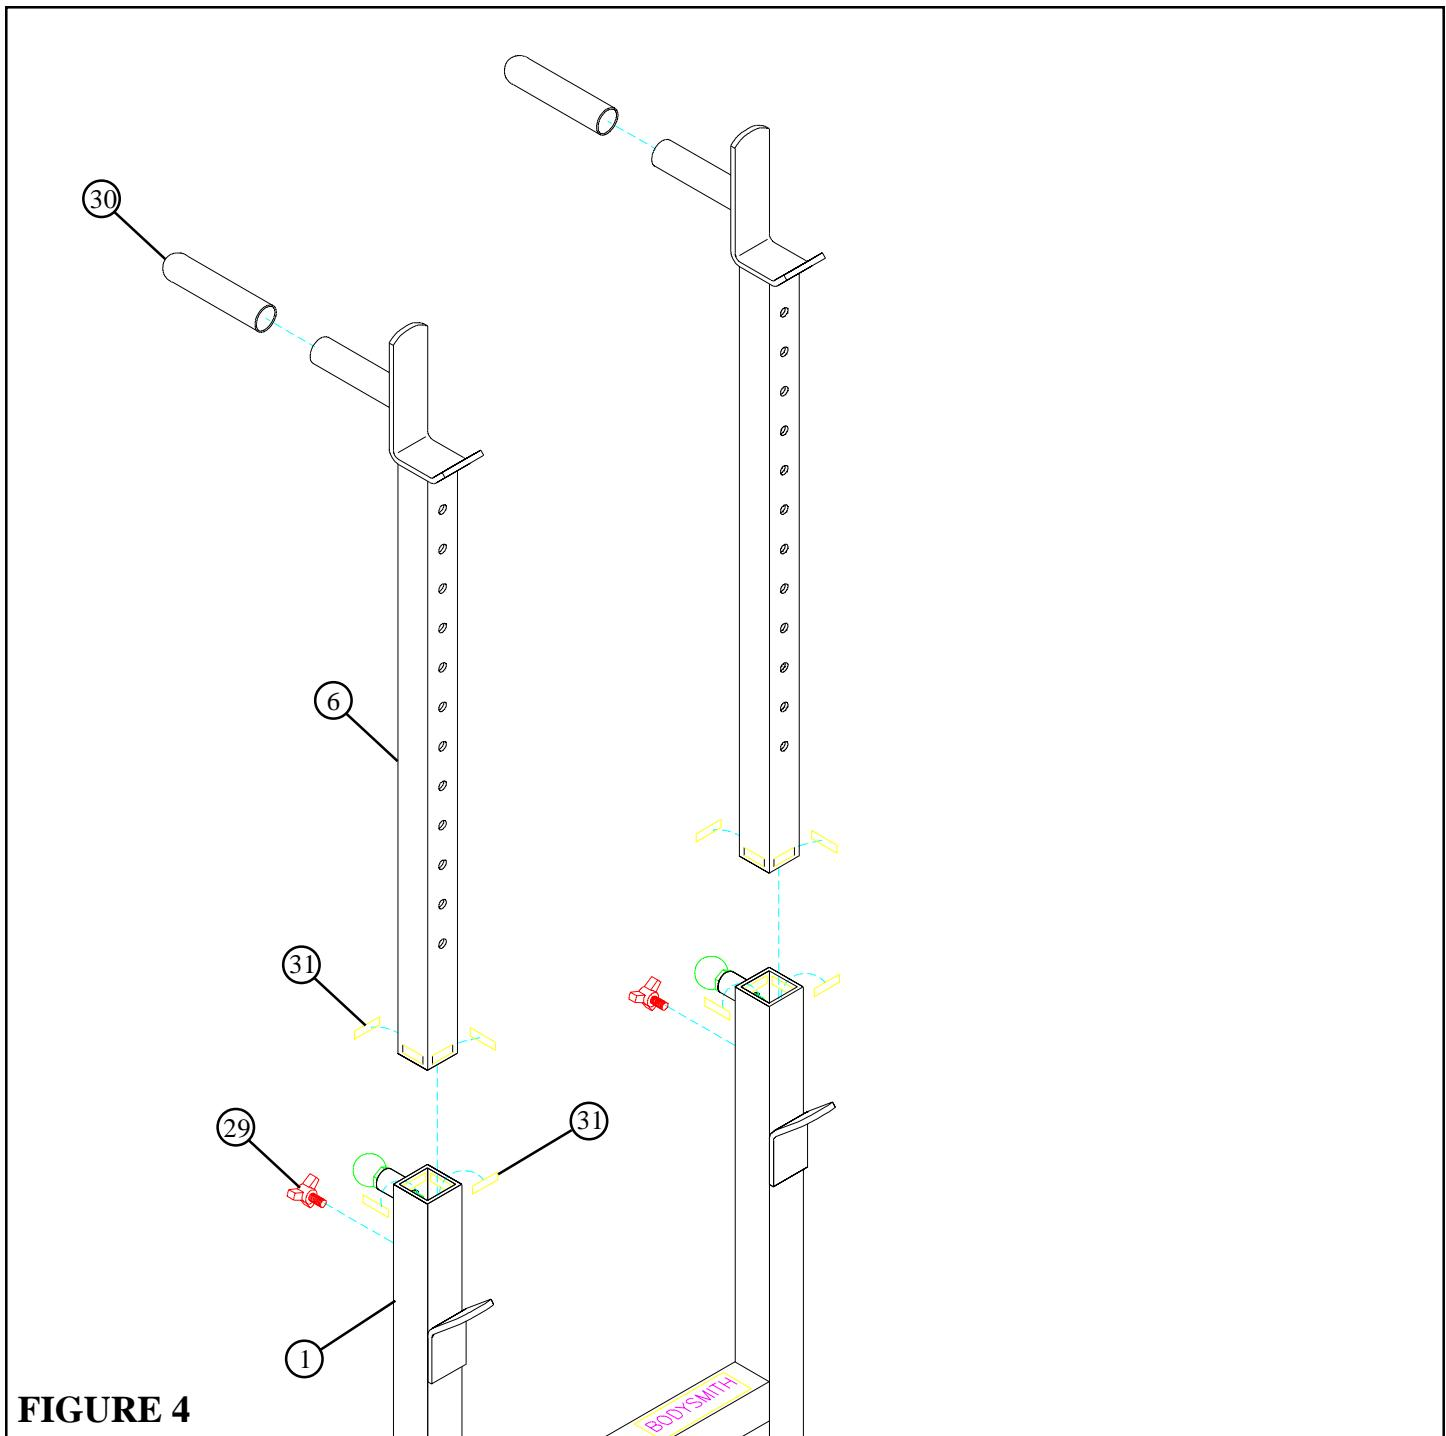

FIGURE 4
- Attach eight PARAGLIDE STRIPS (31) to both UPRIGHT TUBES on the UPRIGHT FRAME (1) (FOUR ON EACH END) as shown in FIGURE 4 using the following steps:
- Attach eight PARAGLIDE STRIPS (31) to each SADDLE (6) (FOUR ON EACH END) as shown in FIGURE 4.
- Slide two 1-1/4 X 5" GRIPS (30) over the DIP HANDLES of both SADDLES (6). (**IF A LUBRICANT IS REQUIRED, COAT THE INSIDE OF THE GRIP WITH RUBBING ALCOHOL.**)
- Pull back the SPRING PIN on the UPRIGHT TUBES, and insert the SADDLES (6) as shown in FIGURE 4.. Slide the SADDLE (6) down to the desired height and release the SPRING PIN into the hole.
- Secure the SADDLES (6) in place with two THUMBSCREWS (29) as shown in FIGURE 4. When ready to perform the DIP EXERCISE, simply insert the SADDLES (6) into the UPRIGHT TUBES and tighten the two THUMBSCREWS